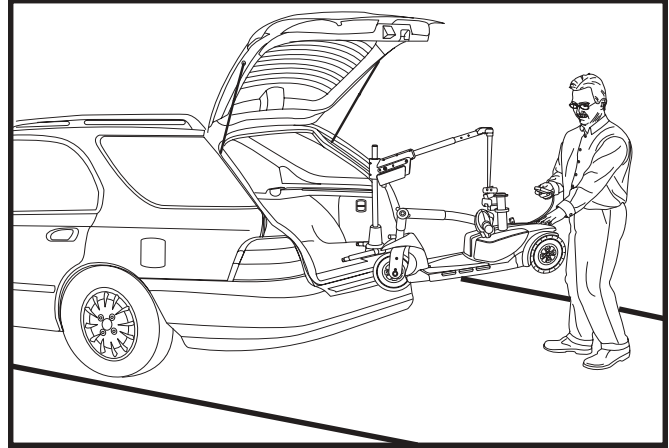

Figure 16. Lifting The Mobility Device
9. Once the mobility device is raised high enough to fit into the vehicle, stop the lift. **See figure 16.**